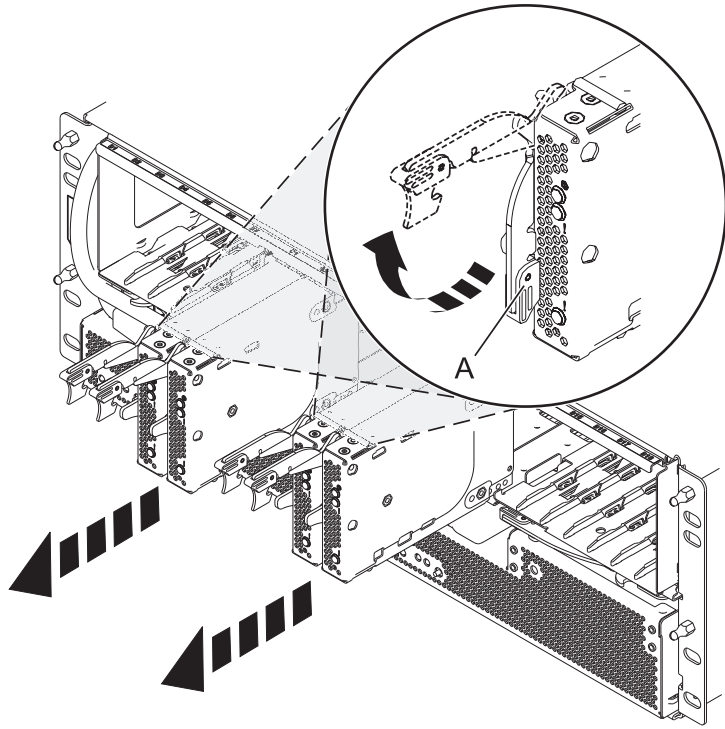

Figure 2. Removing the port card from the disk drive backplane
9. Remove the port cards and fillers from the disk drive backplane in the 5802 expansion unit as shown in Figure 2 on page 5.
- a. Grasp the end of the latch (A) and pull it upward to unlock the port card.